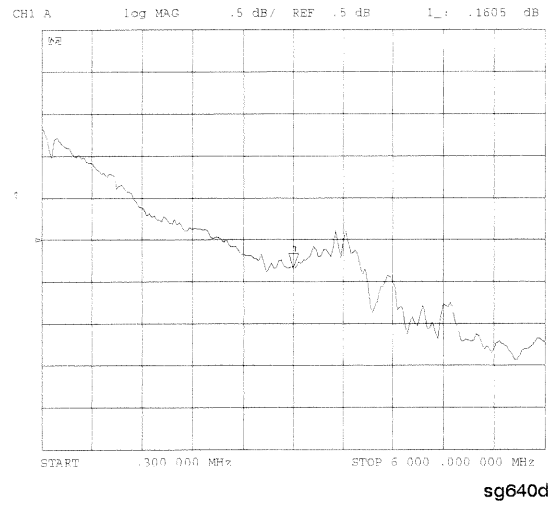

Figure 8-2. Typical Good Trace
Good inputs produce traces similar to Figure 8-2 in terms of flatness. To examine both input traces, do the following:
2. Check the flatness of the input A trace by comparing it with the trace in Figure 8-2.
3. Check the flatness of the input B trace by comparing it with the trace in Figure 8-2.
- ☐ If neither of the input traces resemble Figure 8-2, continue with "Troubleshooting When All Inputs Look Bad."
- ☐ If at least one input trace resembles Figure 8-2, continue with "Troubleshooting When One or More Inputs Look Good."